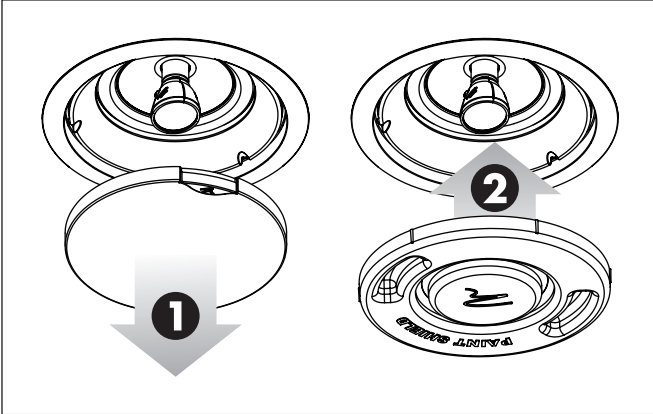

Figure 12. Painting the speaker frame.
- 1 Remove the grill from the Helos 10 (see figure 12).
- 2 Press the paint shield into place (see figure 12).